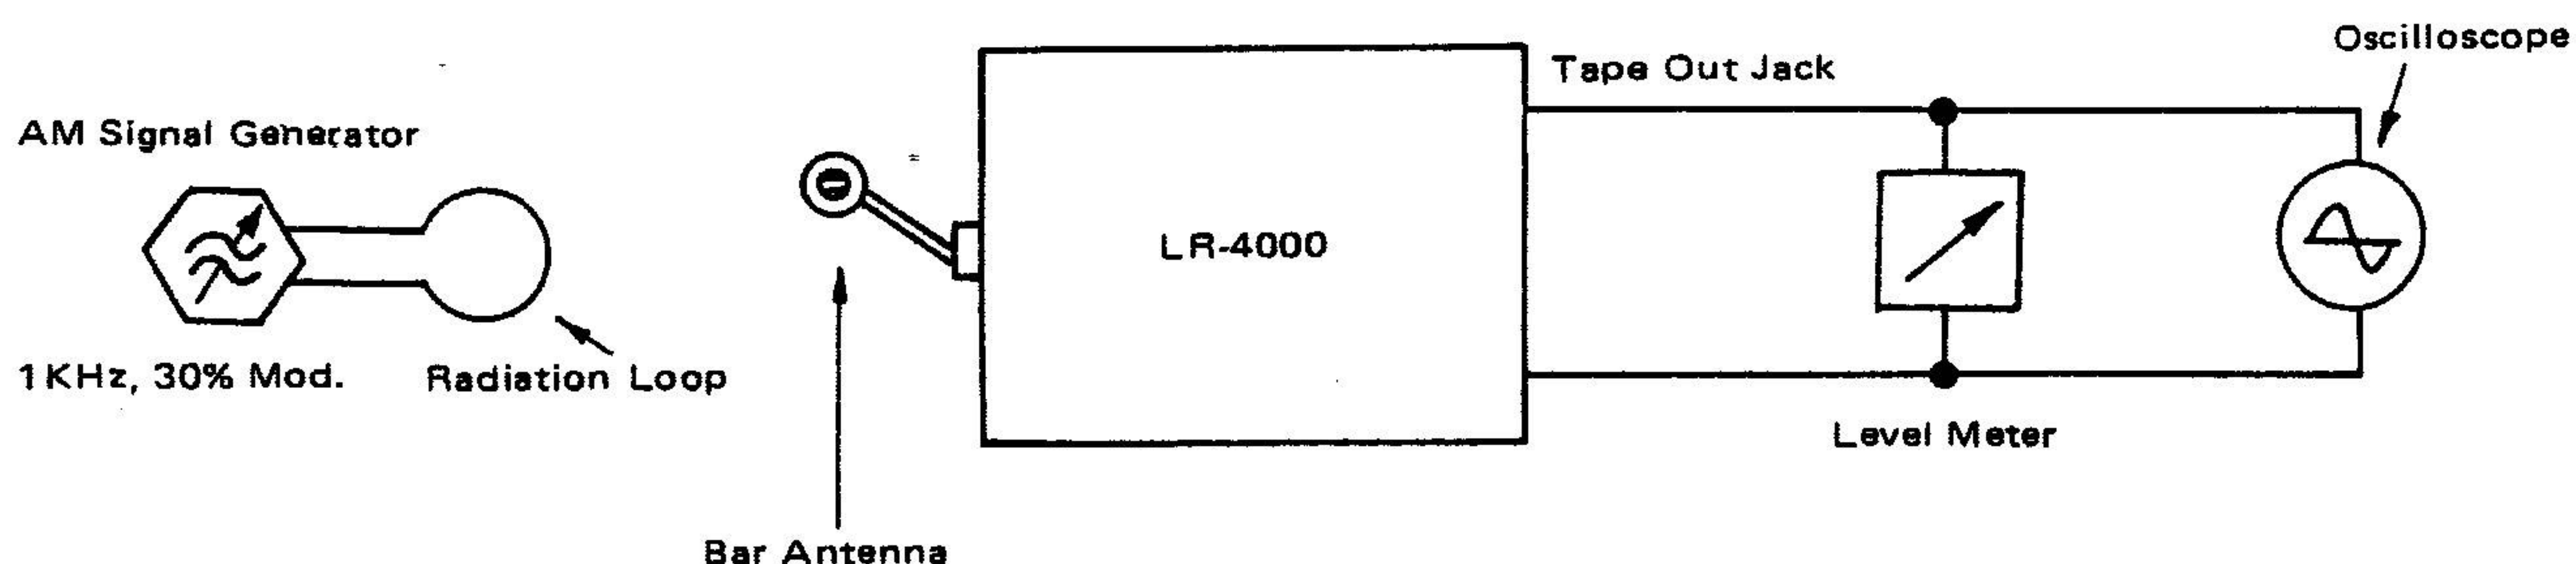

Figure 6. AM Tuner Alignment Set-UP
1. Connect equipment to LR-4000 as shown in Figure 6, AM TUNER ALIGNMENT SET-UP.